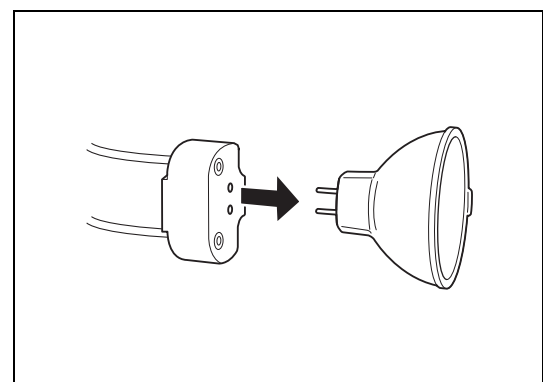

Figure 5.6
- 7** Remove the lamp from the socket holder. (Refer to Figure 5.6)